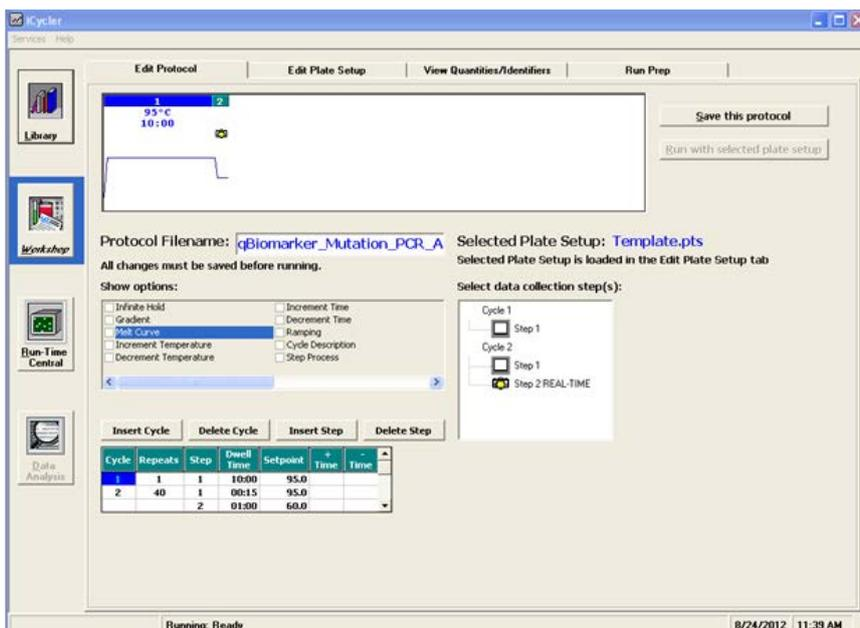

Figure 1. Protocol setup.
2. Click on the “Library” module on the left panel. Select the “View Protocol” tab. Under “Protocol Files,” select “2Step.tmo.” Click “Edit This Protocol” on the right; this will open the “Edit Protocol” tab in the “Workshop” module. Edit the thermal profile in the table at the bottom of the screen as follows (see Figure 1):